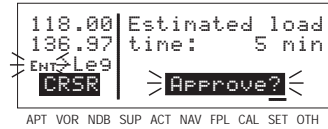

Figure 2-4
- Press **ENT**. The estimated load time in minutes is now displayed (figure 2-4).